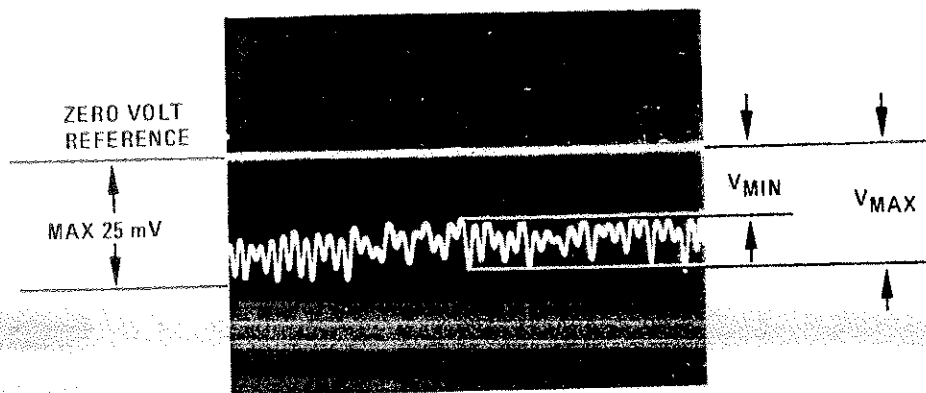

Figure 4-16. Typical Pattern of a Swept SWR Measurement
- d. Note maximum amplitude on oscilloscope. If greater than  $-25$  mV, adjust POWER LEVEL control counterclockwise for  $-25$  mV maximum peak trace to place crystal detector in square-law output range. (Display should be similar to that shown in Figure 4-16.)